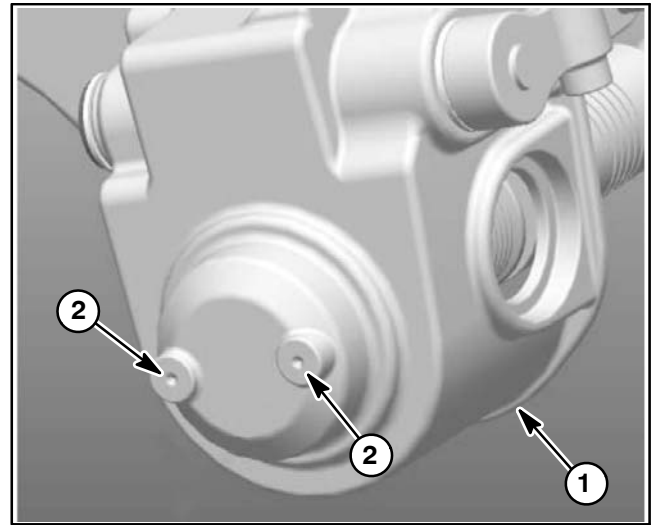

Figure 43
2. Carefully drill two (2) No. 7 (0.201" diameter) holes in the transmission housing using the dimples in the housing as centers for the holes (Fig. 43). Holes should be drilled completely through the housing allowing external access to the ball bearing on the reel shaft.